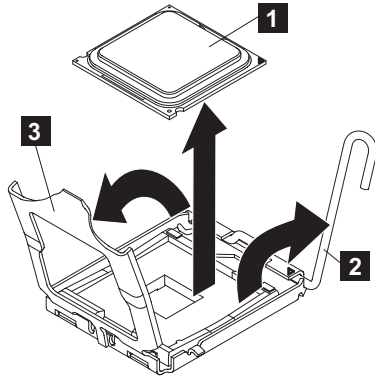

Figure 251. Opening the SAN Volume Controller 2145-CG8 or 2145-CF8 microprocessor-bracket frame
11. Release the microprocessor-release lever (**2** in Figure 251), by pressing down on the curved end of the lever, moving that end away from the middle of the processor, and releasing the lever up to the open position.
12. Open the microprocessor-bracket frame by lifting the tab that is on the top edge. Keep the bracket frame in the open position, as shown in Figure 251.